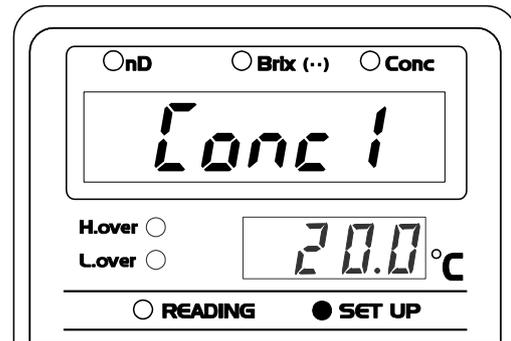

Fig. 11-20
- ① Select "4. Conc" on the SET UP mode, using the   keys (Fig. 11-20).
(Fig. 11-20).